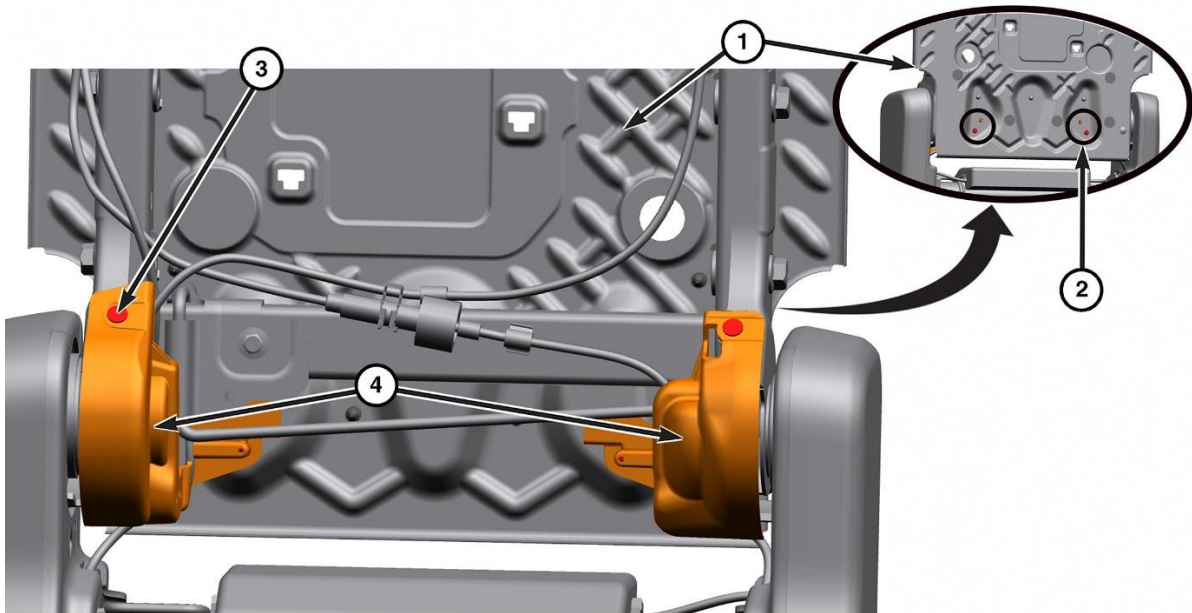

Figure 33 – Hinge Covers
34. Remove the push pins (3) and screws (2) then remove the hinge covers (4) (Figure 33).
69. Position the hinge covers then install the push pins and screws (Figure 33).